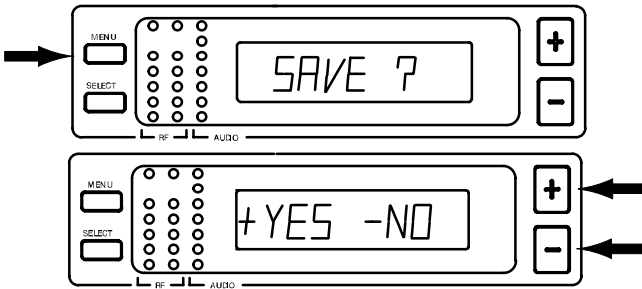

FIGURE 24
6. When the new name has been completely entered, press the MENU button. "SAVE?" appears, followed by "+ YES - NO". Press the "+" button to save the new name and return to the Group/Channel/TV display. Press the "-" button to make more changes. See Figure 24.